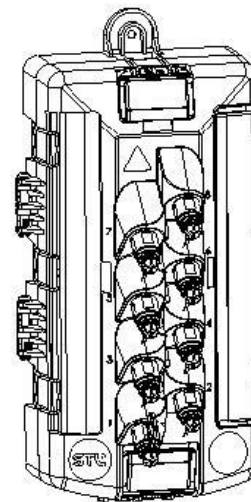

Fig. 12b
- Install without brackets as shown in Fig. 12b using the mounting features at the top and bottom of the closure